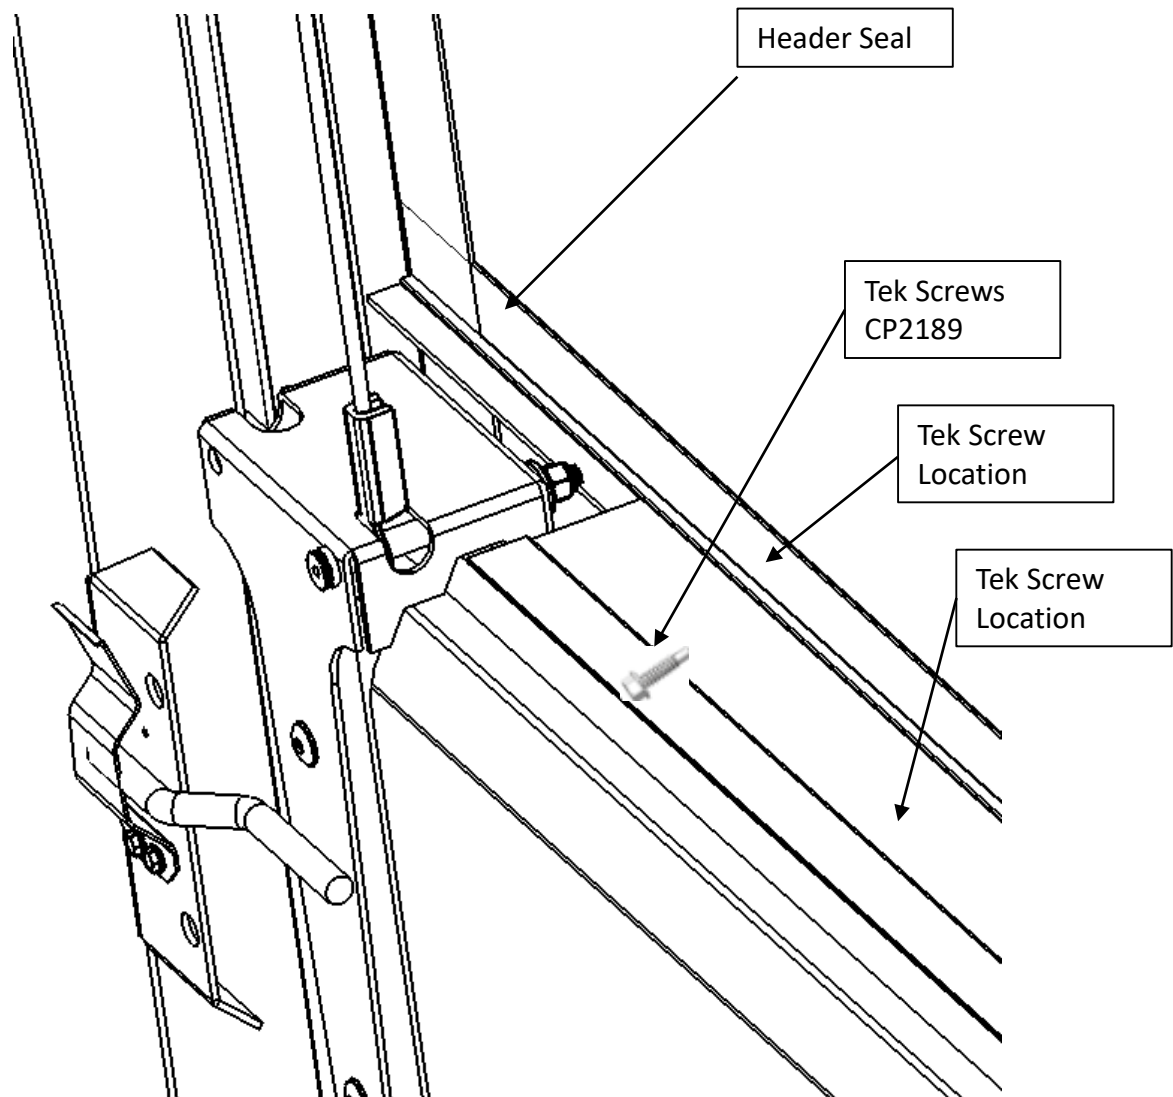

Figure 19. Installing Header Seal Brush Assembly.
1. Attach Header Seal to header using approved fasteners. When the door is closed the brush should be touching the underside of the door header seal. **(SEE FIGURE 19).**